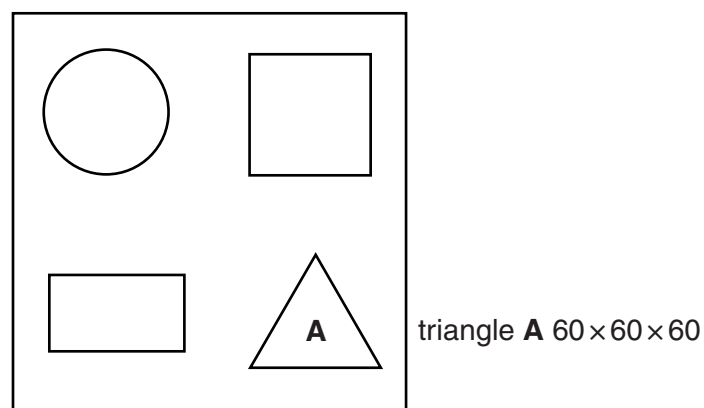

Fig. 11
- (b) Fig. 11 shows the acrylic top with the shapes marked out.